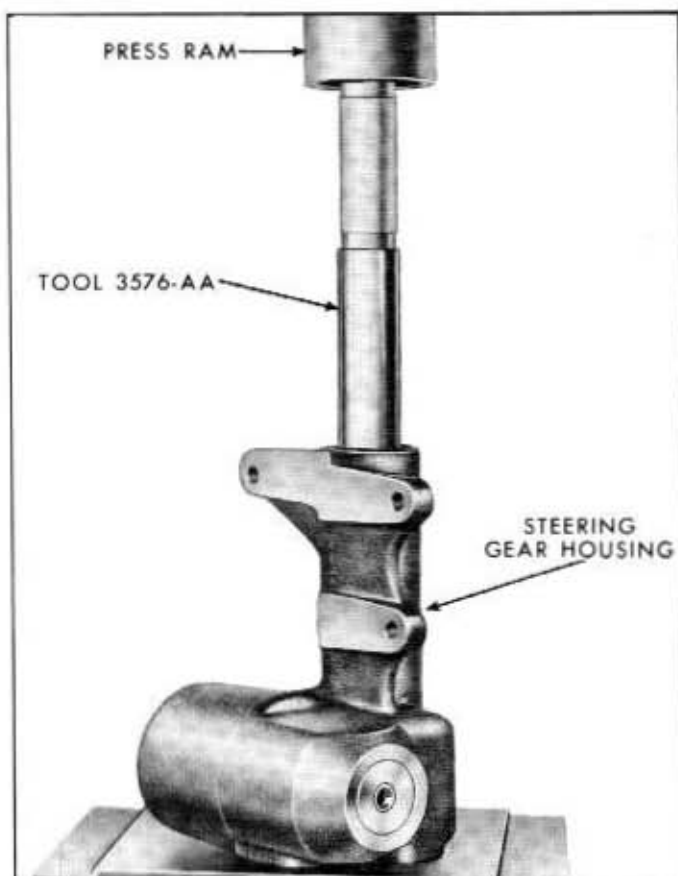

Fig. 5-10—Sector Shaft Bushing Removal—(60C-1207)
8. Press out both sector shaft bushings from the housing with Tool 3576-AA. See figure 5-10.